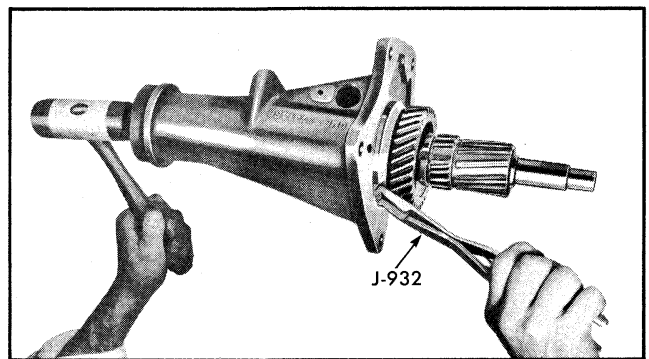

Fig. 7-21 Removing Mainshaft from Extension Housing
20. Expand rear bearing snap ring, using tool J-932 (Fig. 7-21) and, while snap ring is expanded, tap rear of shaft with soft hammer to bring mainshaft assembly forward and out of extension.